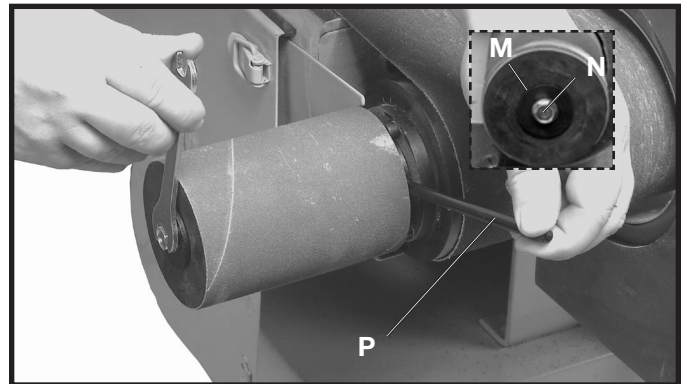

Fig. 26
9. Place the 5/16" spindle washer (M) Fig. 26, on a 5/16-18x1/2" hex head screw (N). Thread screw into tapped hole on end of sanding spindle. Place the rod (P) into the hole on the side of the spindle to lock the spindle. Tighten screw securely with the 12mm open end wrench.